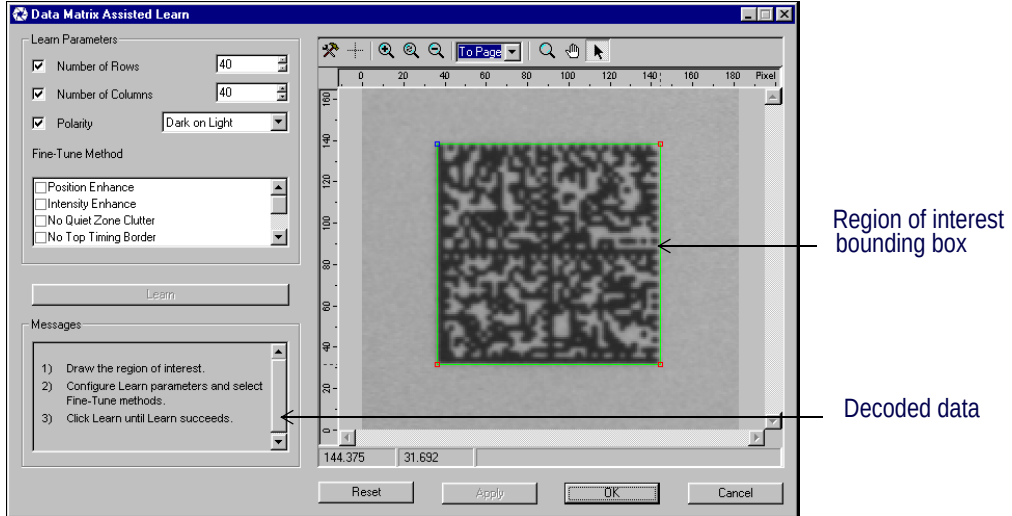

Figure 431 Data Matrix Reader — Assisted Learn Interface
- Drag a bounding box around the data matrix that is displayed in the image. If necessary, readjust the sides of the bounding box so that they are snapped tightly to the edge of the matrix, as shown in Figure 431.
- Use the corner handles to adjust the size of the bounding box so that tightly encloses the matrix, i.e. closely snap the rectangle sides to the matrix edges, as show in Figure 431.